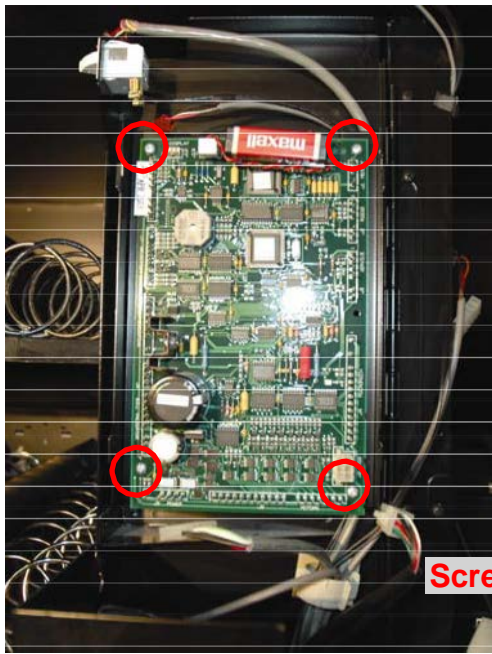

Figure 2
5. Remove the existing controller PCB by removing the 4 – Phillips screws at each corner. Discard the controller PCB. See Figure 2.